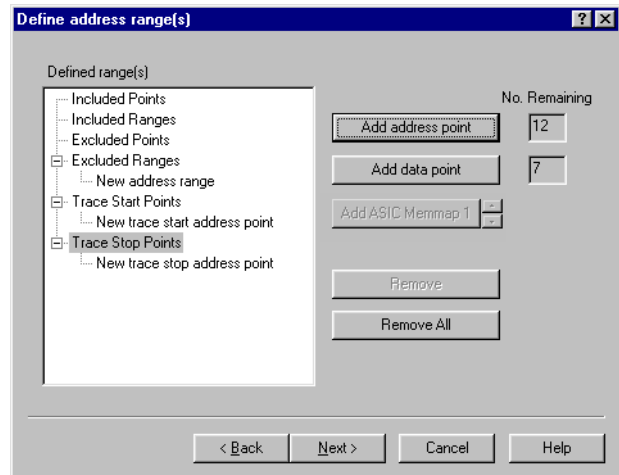

Figure 8-55 Defined address range(s) dialog box
4. Click on **Next>**. The Defined address range(s) dialog box shown in Figure 8-55 is displayed.